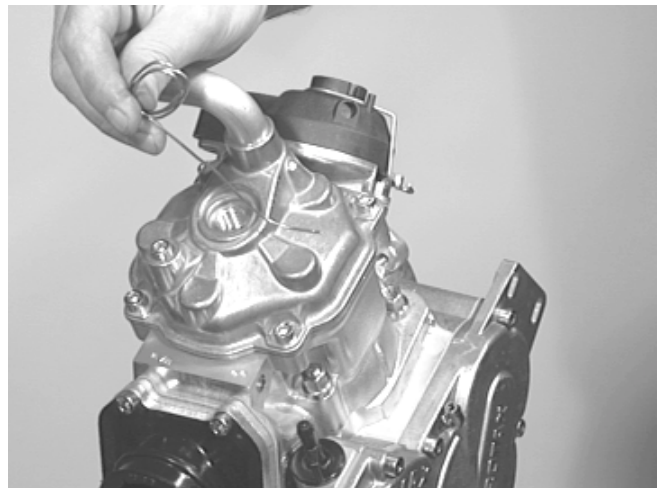

Figure 69
- ⇒ bend a bit of soldering tin of appropriate dia. (M29) as shown on fig 69 and insert it through the spark plug tapping until it touches the cylinder wall